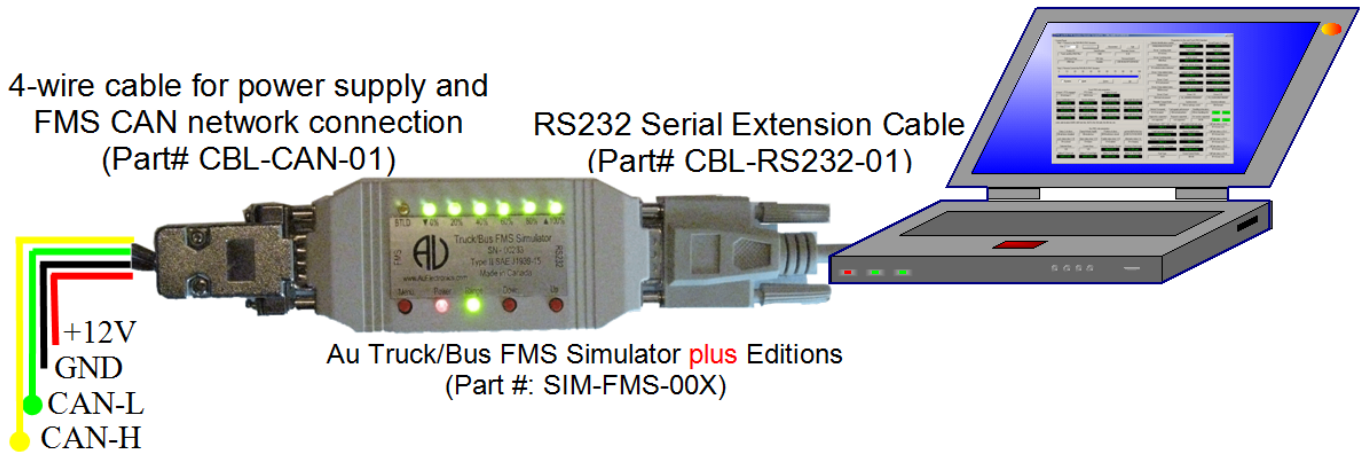
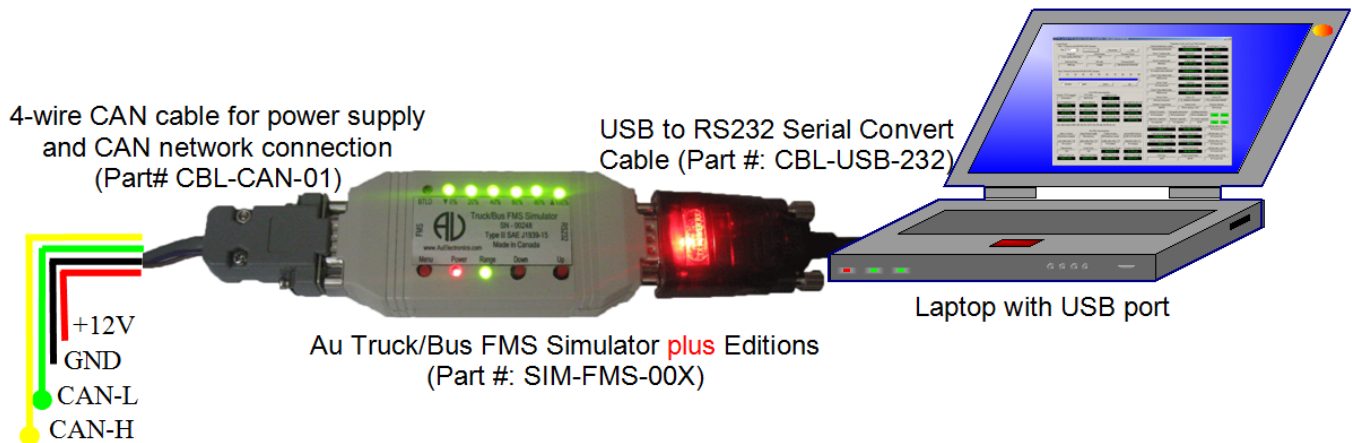

Figure 1-4 Connection of Au FMS Simulator **plus** editions to PC with RS232 port
Figure 1-5 Connection of Au FMS Simulator **plus** editions to PC with USB port
- One 2500V rms isolated RS232 interface:** It is used for in-field firmware update, license management, and computer remote control for **Plus** editions. Au Truck/Bus FMS Simulator **Plus** editions can be connected to the RS232 (serial) port of a PC, either through a RS232 serial extension cable (Part#: CBL-RS232-01), as shown in Figure 1-4; or through a USB to RS232 Serial Adapter (Part#: CBL-USB-232), as shown in Figure 1-5. With the 2500V rms isolation feature, the ground loop issue can be prevent from happening between devices using different power supply. Please refer chapter 4 for detail information on Remote Terminal Program.